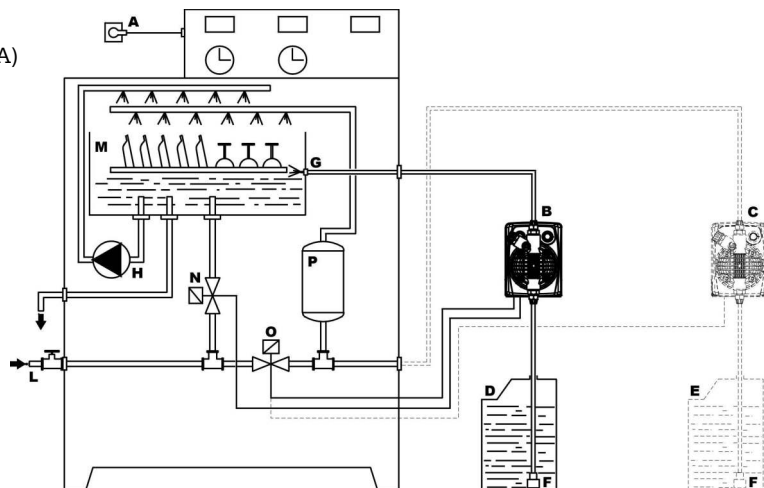

Fig. 12
5.3 - INSTALLATION TYPE D'UN LAVE-VAISSELLE A SIMPLE CUVE AVEC DEUX ELECTROVANNES (Fig. 12)